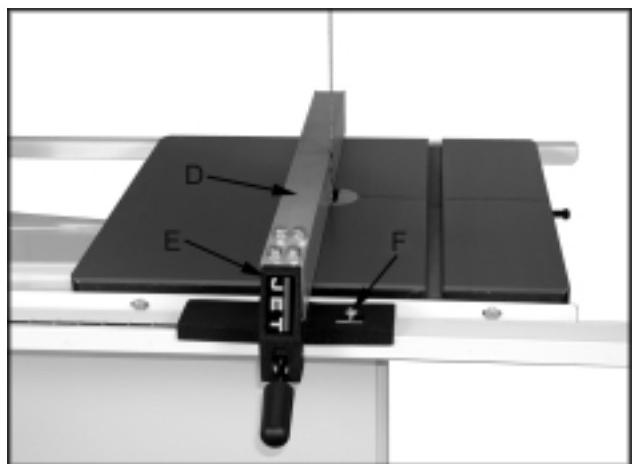

Fig. 9
1. Attach the fence (D, Fig. 9) to the fence body (E, Fig. 9) with four 5/16" x 3/4" hex cap bolts, four 5/16" lock washers, and four 5/16" flat washers.
- Check to see that the pointer (C, Fig. 9) is aligned with the zero marking on the guide rail. If adjustment is necessary loosen the screw that holds the pointer in place and line up to the zero mark. Tighten the screw.